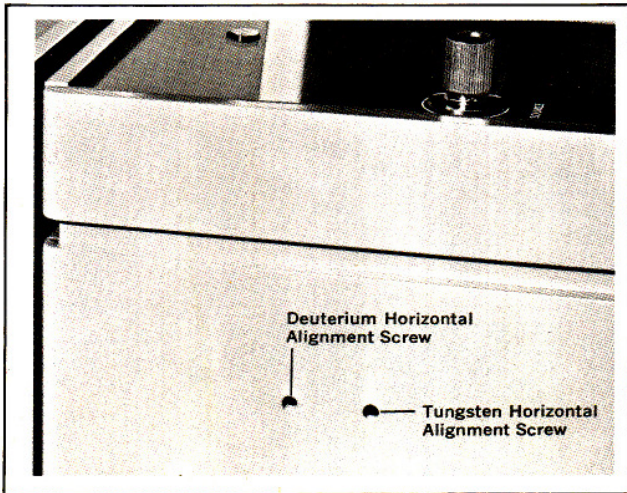

Figure 3. Horizontal Alignment Screws
15. Repeat Step 14 with the deuterium vertical alignment screw, Figure 1, and the deuterium horizontal alignment screw, Figure 3.